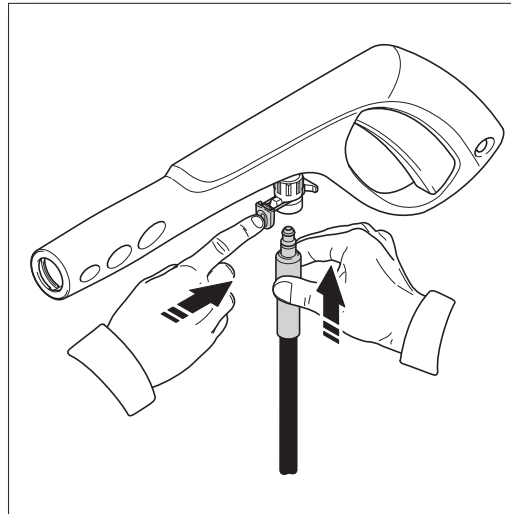

Fig.6
- Connect the other end of the high pressure hose to the spray gun by inserting the brass metal tip of the high pressure hose into the fitting just ahead of the trigger guard. It will lock into the spray gun with a “click” (**Fig. 6**). Confirm the hose is locked into the spray gun by pulling slightly on the hose. The hose is now securely attached to the spray gun.